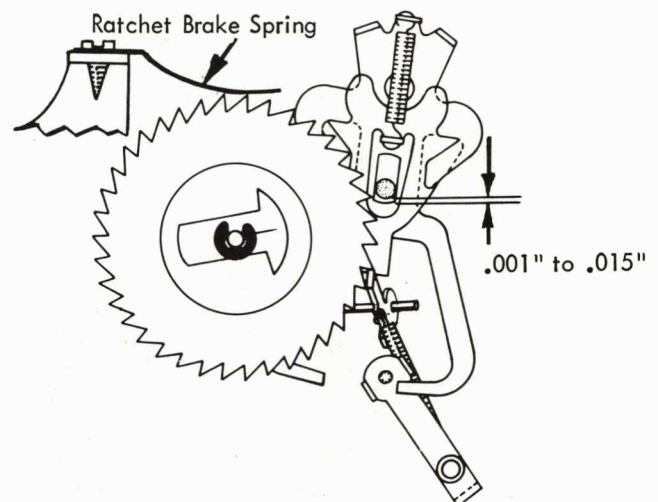

FIGURE 194. Ribbon Feed Plate Adjustment
2. Ratchet Brake Spring - Form the left and right ratchet brake springs so that each will hold its ratchet in position after the ratchet has been manually rotated far enough to fully actuate the reverse mechanism (Fig. 194).
point, adjust the ribbon feed plate forward or back so that the ribbon feed pawl holds the reverse interposer within .001" to .015" of its total travel (Fig. 194).